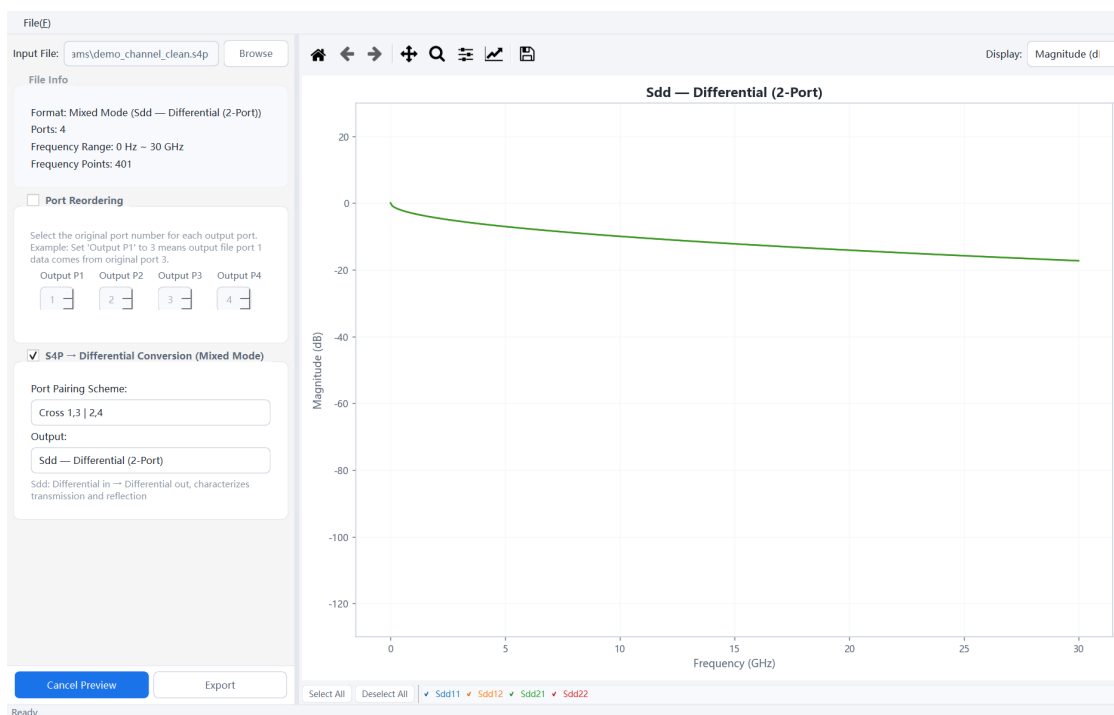

Fig. 7-6 Conversion: S4P → SDD
Step 1 Menu **S-Parameter Analysis** → **Format Conversion**, pick **demo_channel_clean.s4p**, enable the differential mixed-mode group, use cross 13/24 pairing, select differential (SDD) output and preview (Fig. 7-6). The input pair is 1,3 and output pair 2,4. Start with only Sdd21, then check Sdd11/Sdd22 and phase; export the differential two-port file.